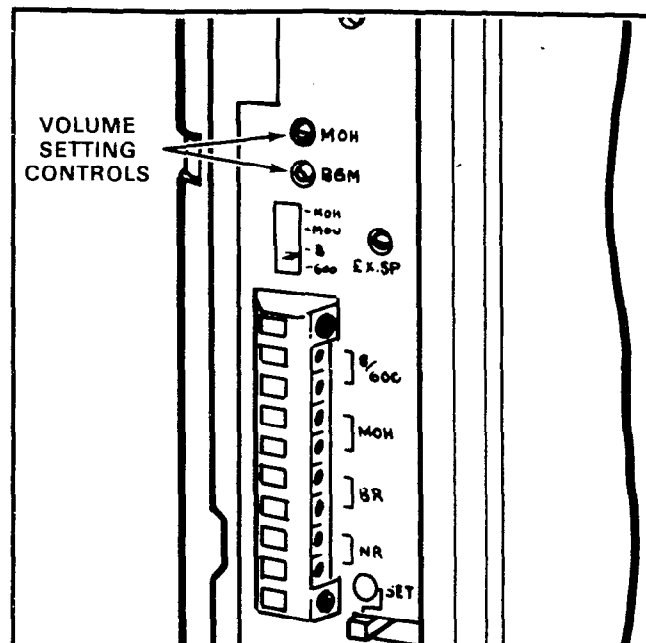

FIGURE 38
10.81 Refer to Figure 38 and adjust the volume for MOH, BGM and External Page in the sequence outlined in Paragraph 10.82.